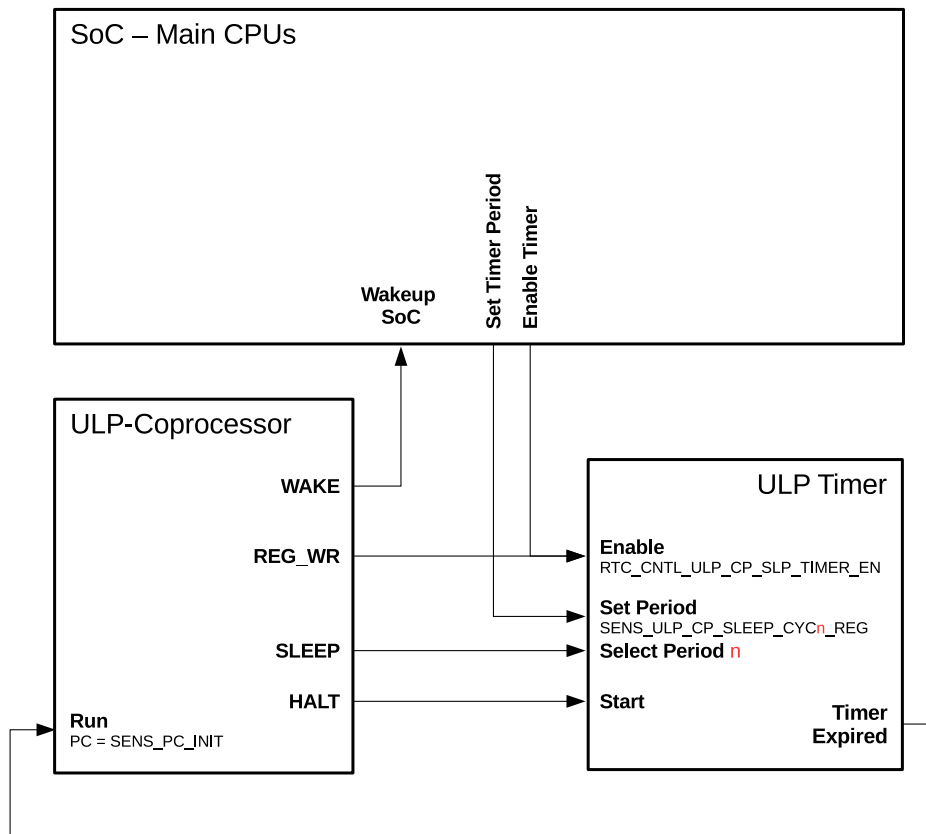

Figure 30-19. Control of ULP Program Execution
The ULP coprocessor puts itself into sleep mode by executing the **HALT** instruction. This also triggers the ULP timer to start counting `RTC_SLOW_CLK` ticks which, by default, originate from an internal 150 kHz RC oscillator. Once the timer expires, the ULP coprocessor is powered up and runs a program with the program counter (PC) which is stored in register `SENS_PC_INIT`. The relationship between the described signals and registers is shown in Figure 30-19.